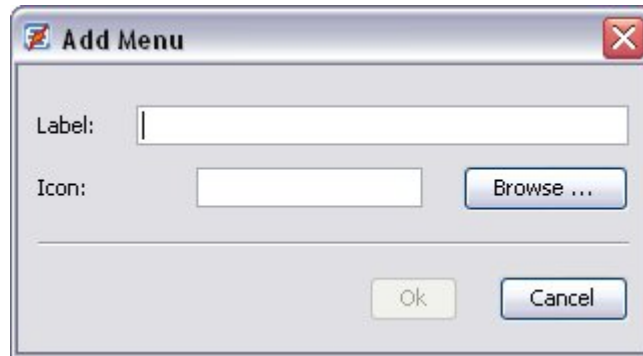

Figure 89 : Add menu
3. Click on the **Add Menu** button, the following dialog box then appears (Figure 89):